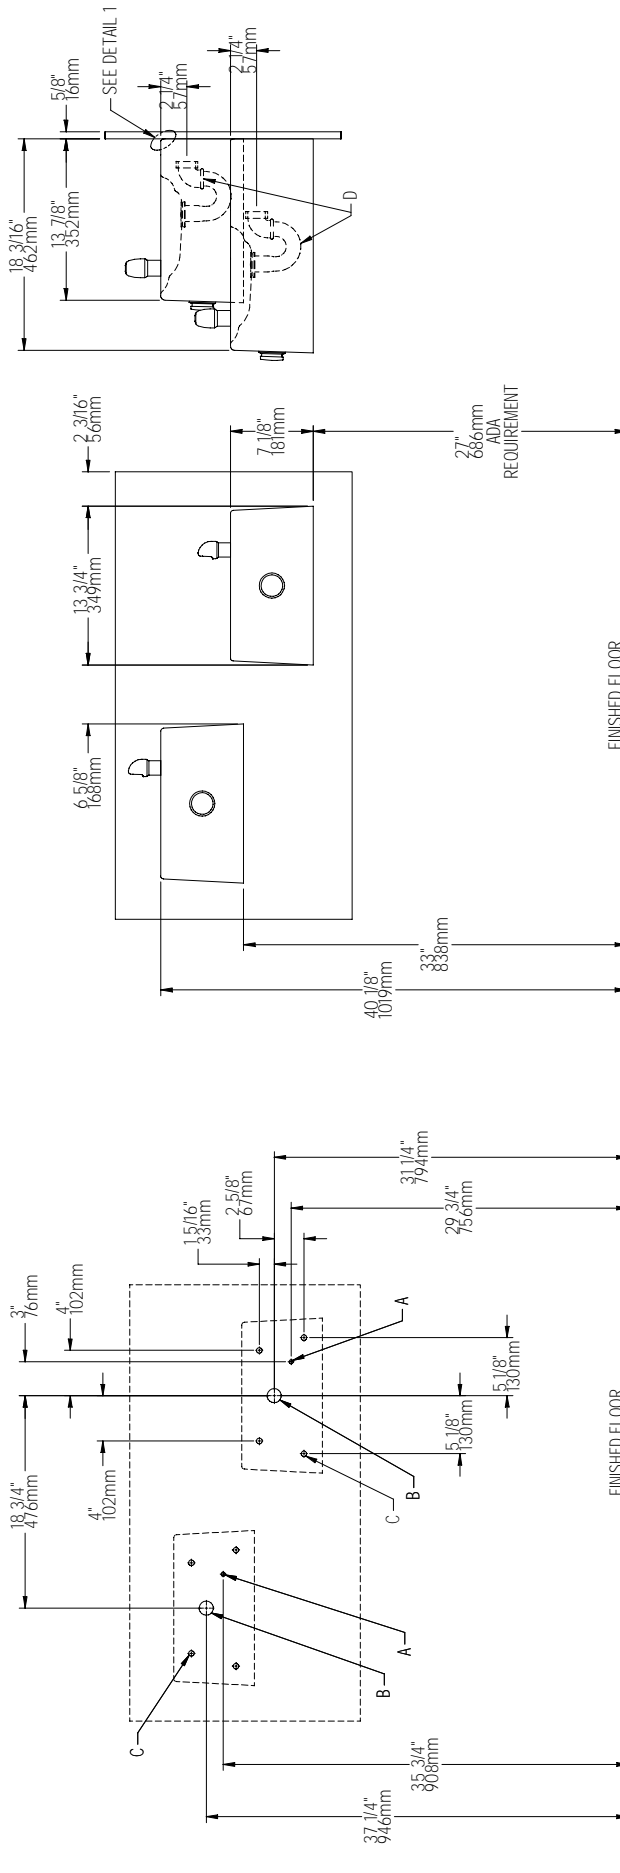
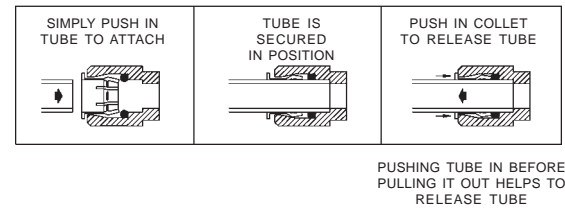

FIG. 2
FIG. 6
1. **Wall should already be framed for the fountain** using the positioning dimensions shown in Fig. 2. Shown dimensions pertain to installation location (framing must support up to 150 lbs. weight).
2. **Install rough-in plumbing** as shown in Fig. 2. Run supply water inlet line and connect to a service stop (not provided). Turn on supply water and flush thoroughly. Close water supply.
3. **Remove bottom access panel** from fountain basin and save the screws. Install the fountain to the back panel and wall using (4) 5/16" bolts and washers (not provided). Bolts should be long enough to securely fasten the fountain to the wall. Tighten securely, but do not over tighten. Over tightening will crack the Marblyte Fountain.
4. **Remove elbow from end of p-trap** (item 1) and attach it to drain tube. Re-attach elbow to p-trap and cut waste tube to required length using plumbing hardware and trap as guide.
5. **Make water supply connections** from service stop to the fountain strainer (Item 16) by inserting the water inlet line into the inlet side of strainer until it reaches a positive stop about 3/4", (See Figure 6, Page 7). Turn on water supply and check for leaks. Newly installed water supply line should be insulated after leak check is completed. **DO NOT SOLDER TUBES INSERTED INTO THE STRAINER AS DAMAGE TO THE O-RINGS MAY RESULT.**
Actuation of Quick Connect Water Fittings: Cooler is provided with lead-free connectors which utilize an o-ring water seal. To remove tubing from the fitting, relieve water pressure, push in on the gray collar while pulling on the tubing.(See Figure 6, Page 7). To insert tubing, push tube straight into fitting until it reaches a positive stop, approximately 3/4".